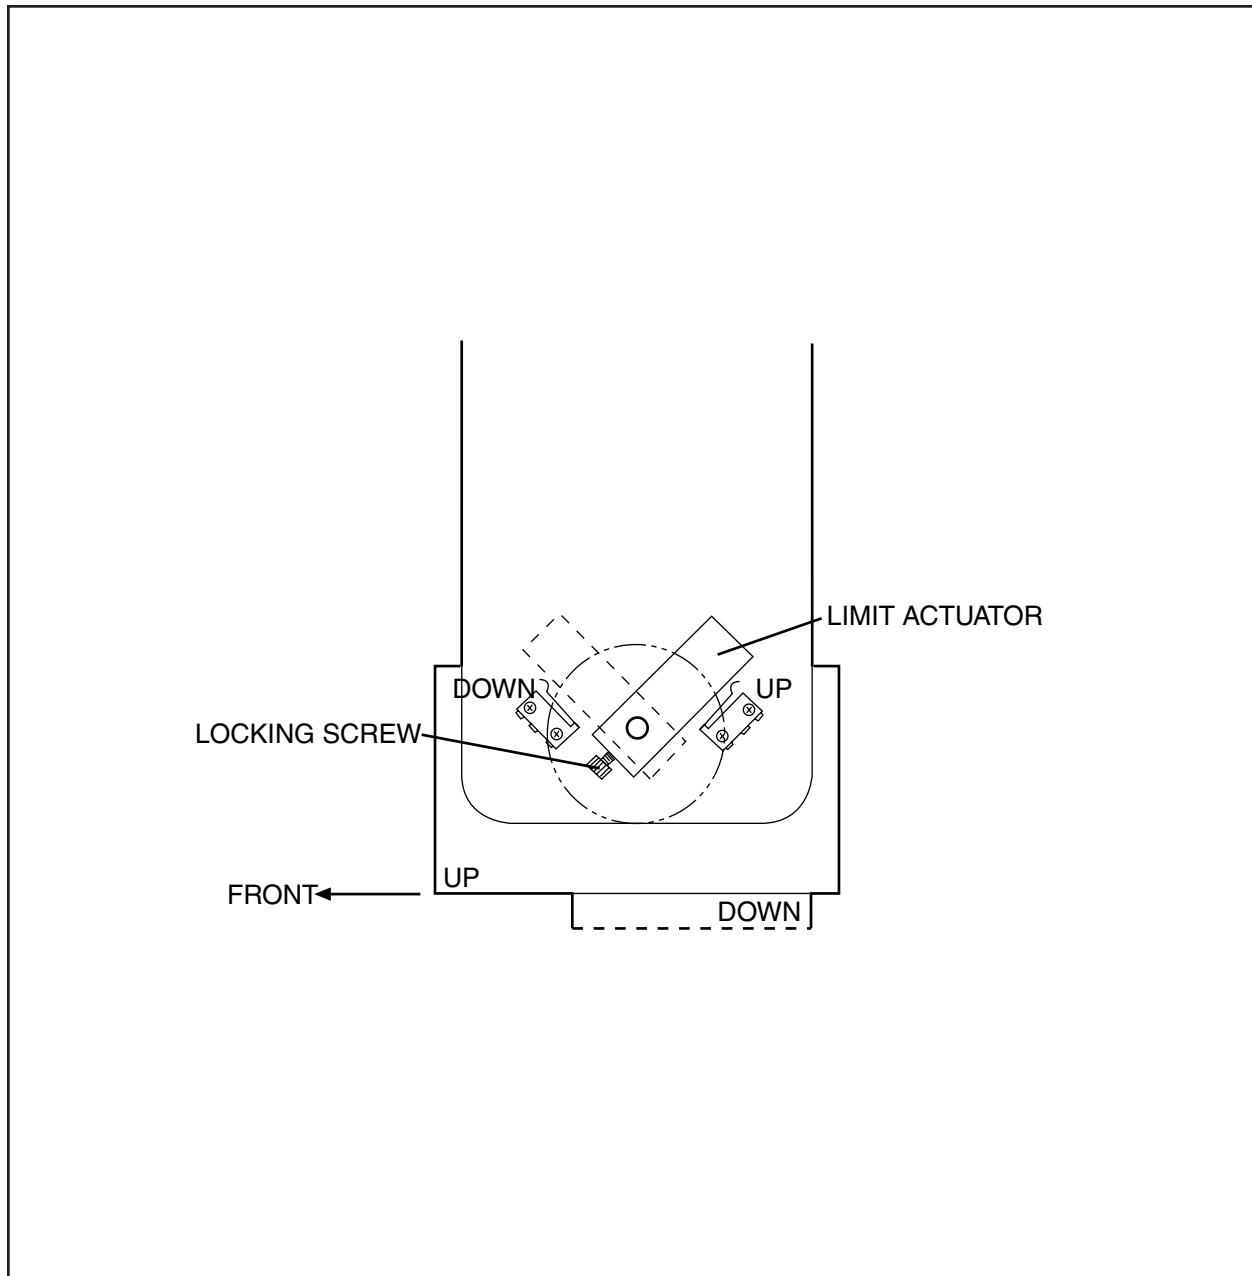

Figure 6. Tilt Limit Stop Modification
- To alter the factory set tilt limit*, bend the actuator stops on the microswitches (see Figure 6). Move the tilt table to the desired position and adjust the actuators until the switch clicks; lock into position.